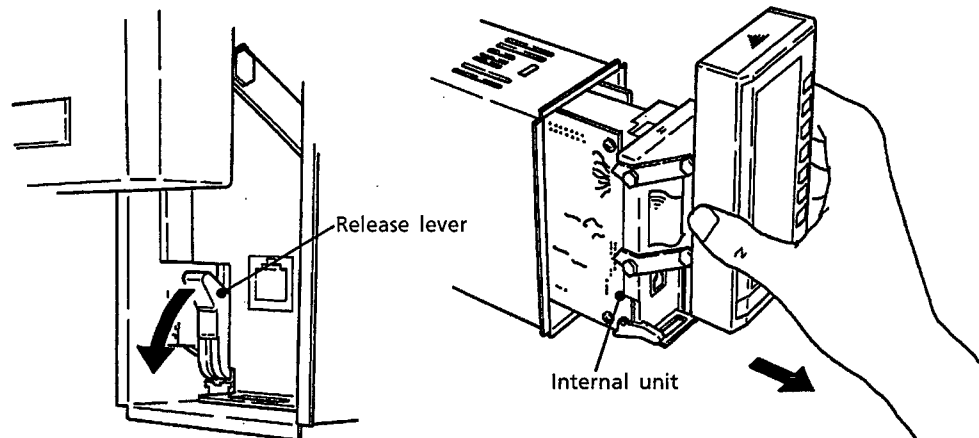

Figure 4.6 Removing the Internal Unit 1      Figure 4.7 Removing the Internal Unit 2
- ① Swing up the front panel (see Section 4.2 "Swinging the Front Panel Up and Down").
- ② Pull down the release lever (see Figure 4.6). The connector part at the back comes off, and the power of the internal unit is turned off.